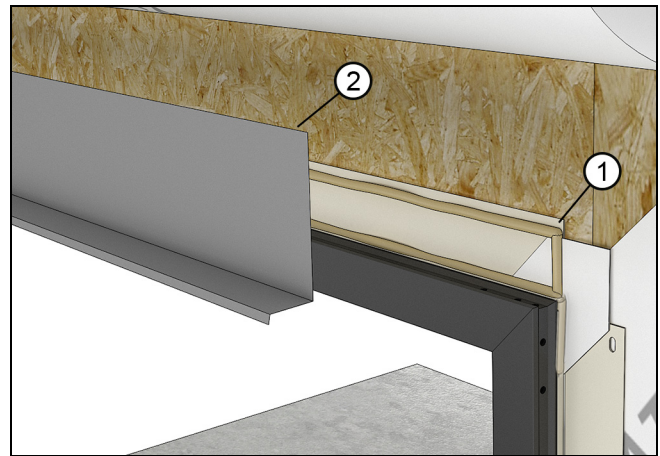

Figure 10
4. Install a rigid head flash. Seal both horizontal and vertical legs of the rigid head flash. See Figure 10.